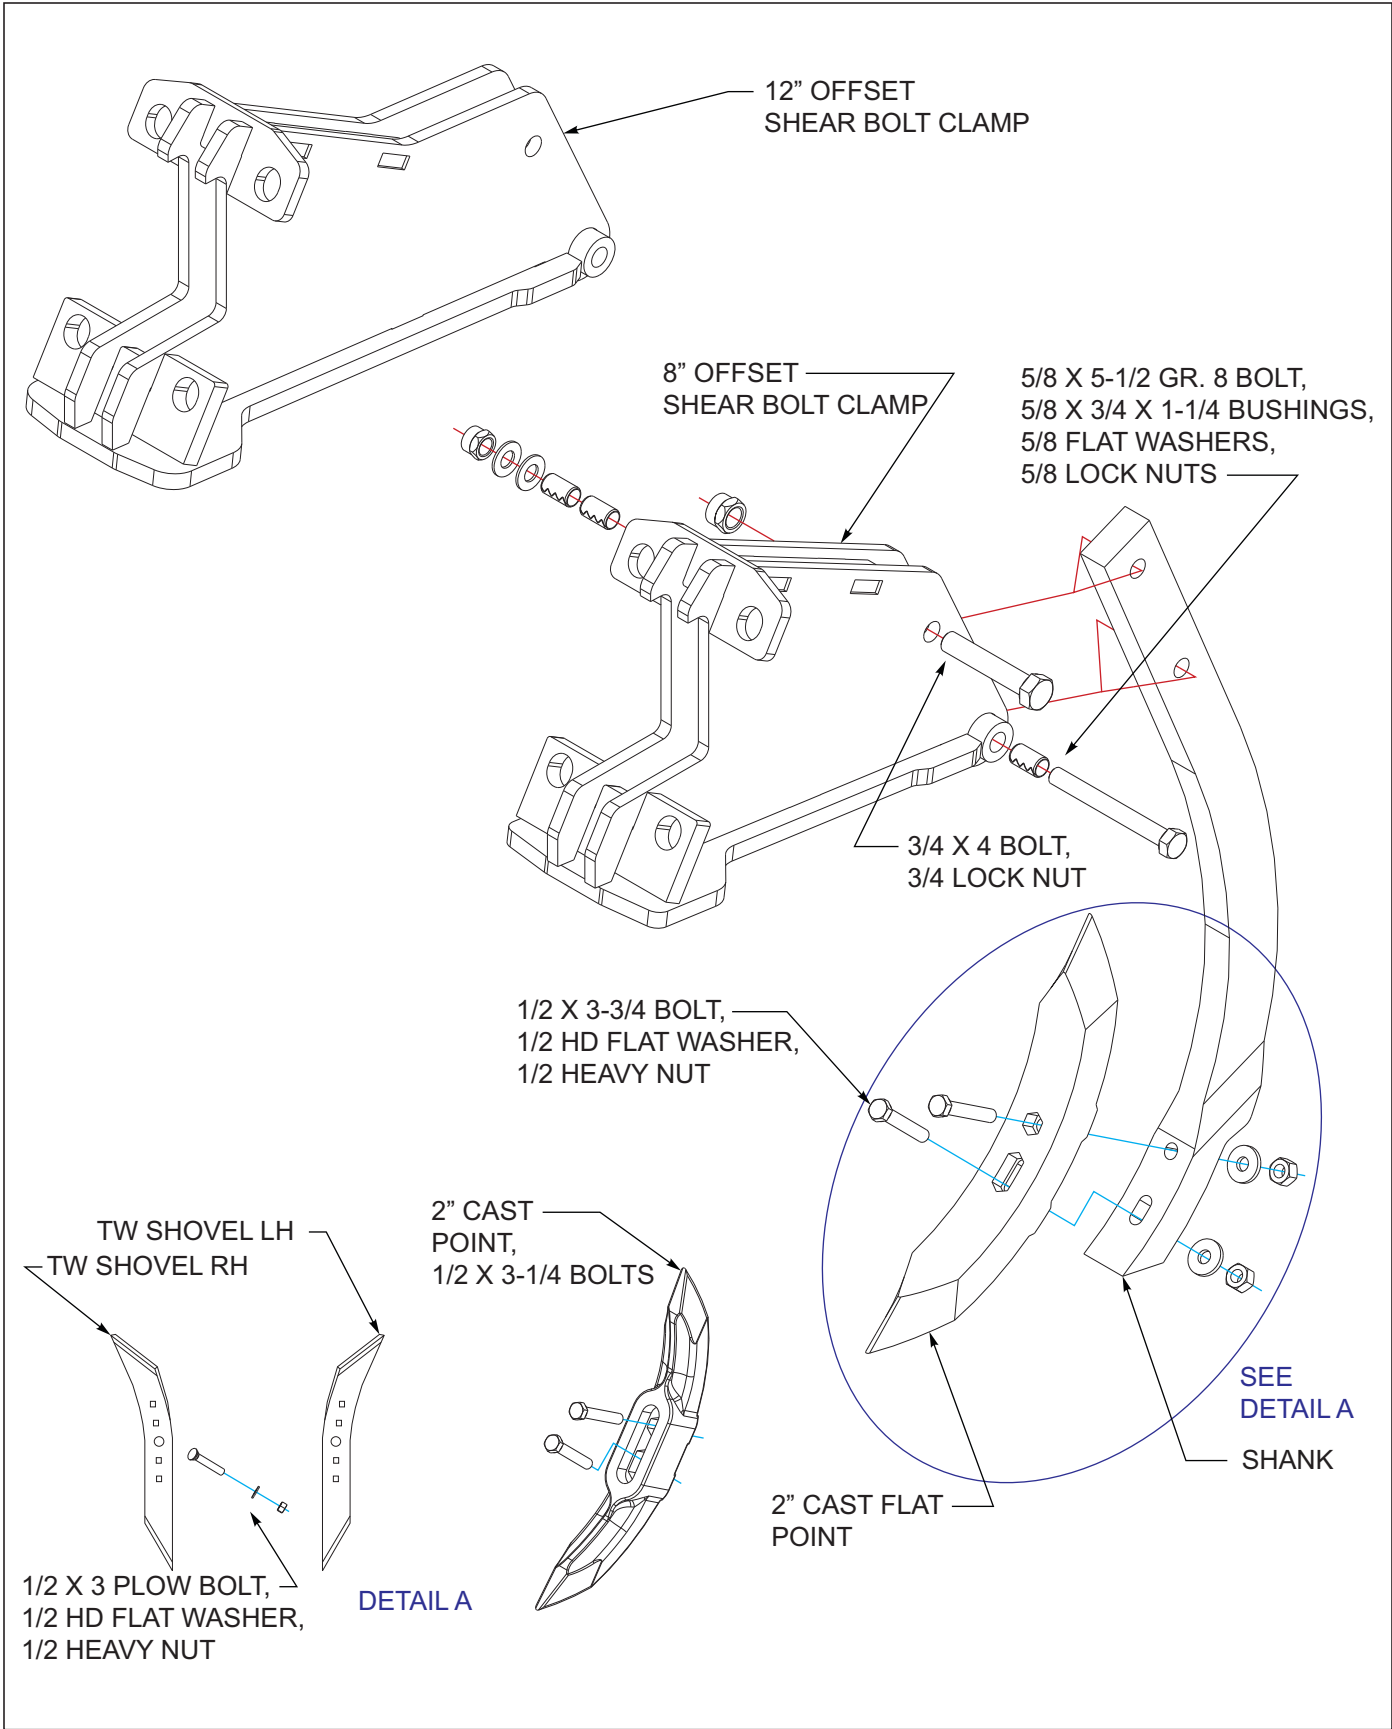

Figure 3-9: Rigid Shear Shank and Shovel Installation
1. Attach shank to each 8" or 12" offset shear bolt clamp assembly using 3/4 x 4 bolts and lock nuts in top hole, use 5/8 x 5-1/2 Gr. 8 bolt, three 5/8 x 3/4 x 1-1/4 bushings, two 5/8 flat washers and 5/8 lock nuts for bottom hole *See Figures 3-9*.